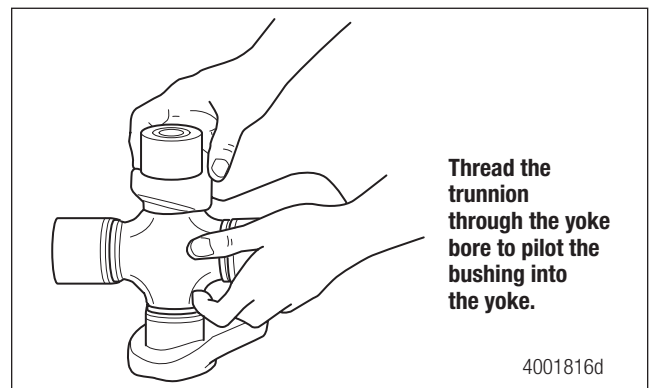

Figure 5.21
5. Position the second bushing onto the trunnion by threading the cross through the yoke bore as shown. Figure 5.21.